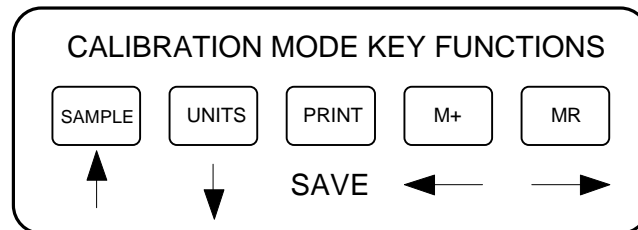

Figure 6-1: Calibration Mode Key Assignments
7. Use the four directional keys shown in Figure 6-1 to adjust the displayed value to the actual test weight value. Increase the flashing digit by pressing the SAMPLE key. Decrease the flashing digit by pressing the UNITS key. The position of the flashing digit may be changed by pressing the M+ key or the MR key.